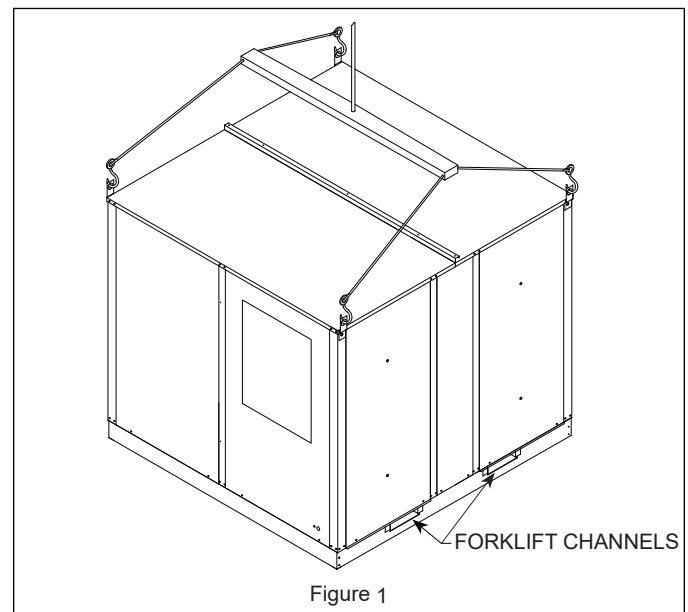

Figure 1
7. Forklift channels (if used) must be removed from the base of the ERV before setting unit on curb. **See Figure 1.**
8. Attach lifting straps to the provided lifting lugs on the top 4 corners of the D-11 through D-62 units. **See Figure 1.**